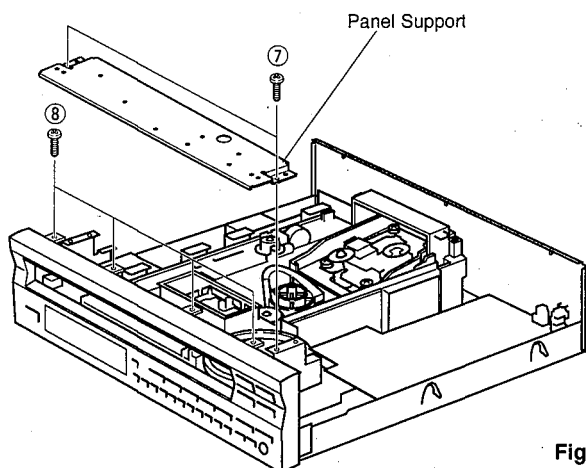

Fig. 3
- Remove 2 screws (⑦) and 4 screws (⑧) as shown in Fig. 3.
- Remove the Panel Support as shown in Fig. 3.